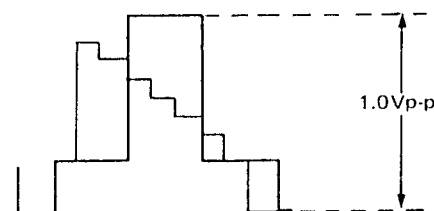

Figure 39.
- 3) Adjust R476 (Luminance level control in playback mode) to 1v p-p as shown in figure 39.